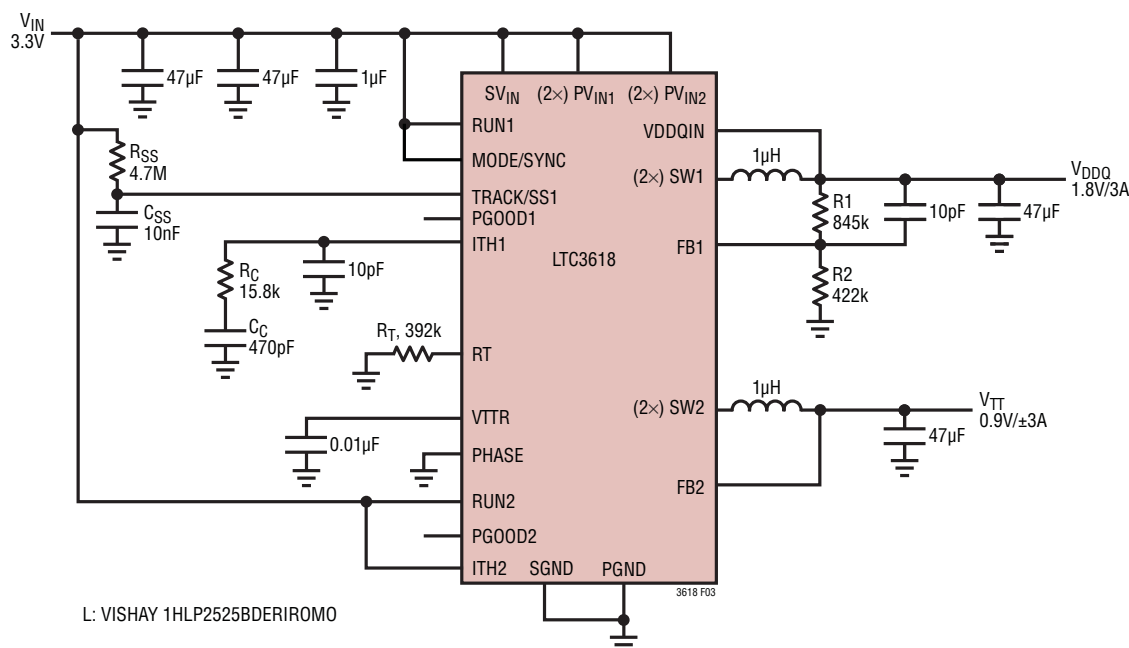

Figure 3. Soft-Start and Compensation for V_{DDQ} Externally Programmed, Compensation for V_{TT} Internally Programmed
The resistive divider allows pin V_{FB1} to sense a fraction of the output voltage as shown in Figure 3.
The ITH1 external components (15.8k and 470pF) shown in Figure 3 will provide an adequate compensation as well as a starting point for most applications. The values can be modified slightly to optimize transient response once the final PCB layout is complete and the particular output capacitor type and value have been determined. The output capacitors need to be selected because the various types and values determine the loop gain and phase. The gain of the loop will be increased by increasing R_C and the bandwidth of the loop will be increased by decreasing C_C . If R_C is increased by the same factor that C_C is decreased, the zero frequency will be kept the same, thereby keeping the phase shift the same in the most critical frequency range of the feedback loop. The output voltage settling behavior is related to the stability of the closed-loop system. The external compensation, forced continuous operation circuit in the Typical Applications section uses faster compensation to improve load step response.
After enabling the LTC3618 by bringing the RUNx pins above the threshold, the enabled channels enter a soft-start-up state. The type of soft-start behavior of V_{DDQ} is set by the TRACK/SS1 pin. The soft-start cycle begins with an initial discharge pulse pulling down the TRACK/SS1 pin to SGND and discharging the external capacitor C_{SS} (see Figure 3).
2. If a longer soft-start period is desired, it can be set externally with a resistor and capacitor on the TRACK/SS1 pin as shown in Figure 3. The voltage applied at the TRACK/SS1 pin sets the value of the internal reference at V_{FB1} until TRACK/SS1 is pulled above 0.6V. The external soft-start duration can be calculated by using the following equation: